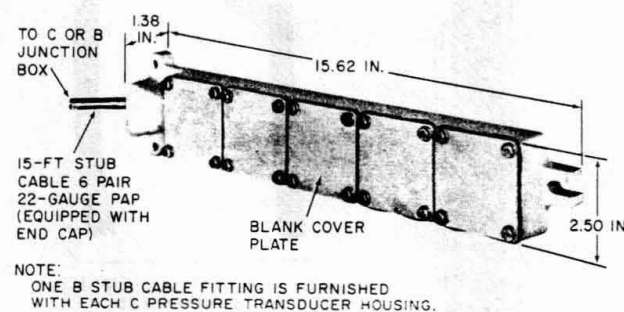

Fig. 2—C Pressure Transducer Housing
5.08 The C pressure transducer housing (Fig. 2) can accommodate from one to five F pressure transducers in individual air-tight cavities. Each transducer has a plugged entrance (1/8-inch NPT) for connection by plastic tubing to the pressurized cable to be monitored. The pneumatic and electrical connections are independent.